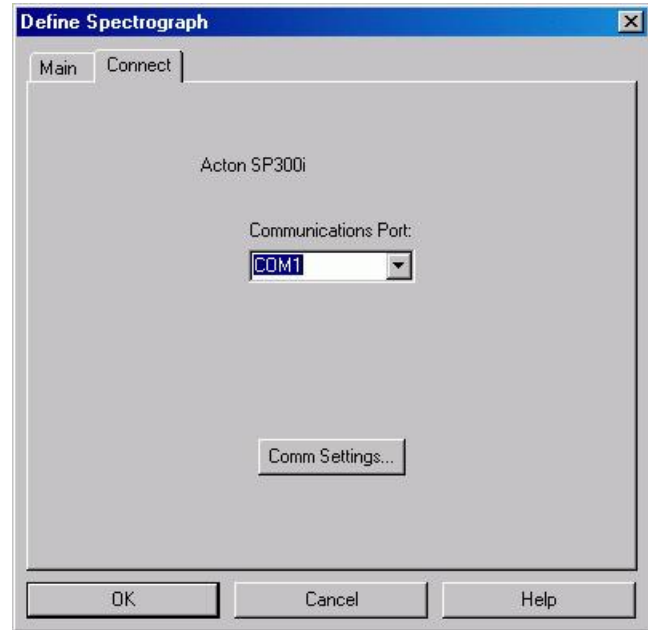
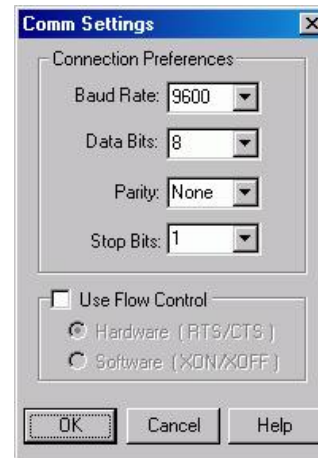

Figure 23. Connect tab page
Figure 24. Comm Settings dialog
4. Click on **Comm Settings** (Figure 23). This will open the Comm Settings dialog as shown in Figure 24.